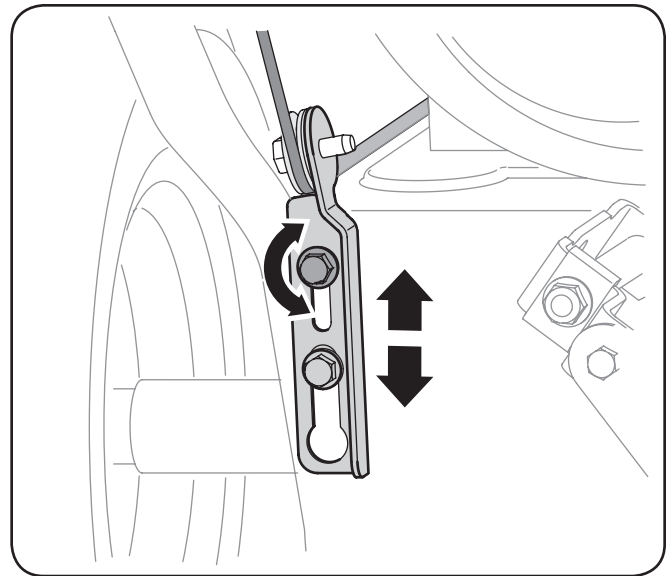

Figure 3-15
4. Allow the auger to remain engaged for approximately ten (10) seconds before releasing the auger control. Repeat this several times.
8. Position the bracket upward to provide more slack (or downward to increase cable tension). See Fig. 3-15.